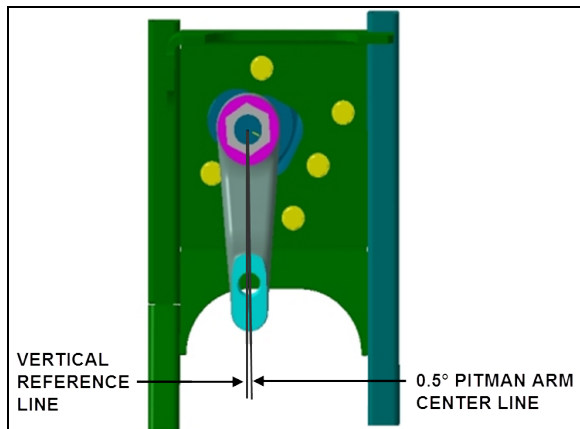

FIGURE 22: IFS PITMAN ARM ALIGNMENT
- Check that the angular relationship of the pitman arm to the steering gear is as shown in figure 22.